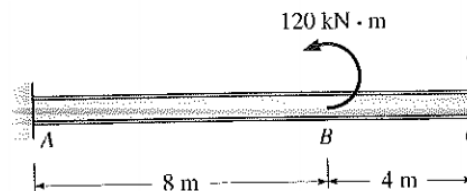

Figure 4
- 8 a) Calculate the deflection and slope at point C for the given beam (Figure 4). [7M]